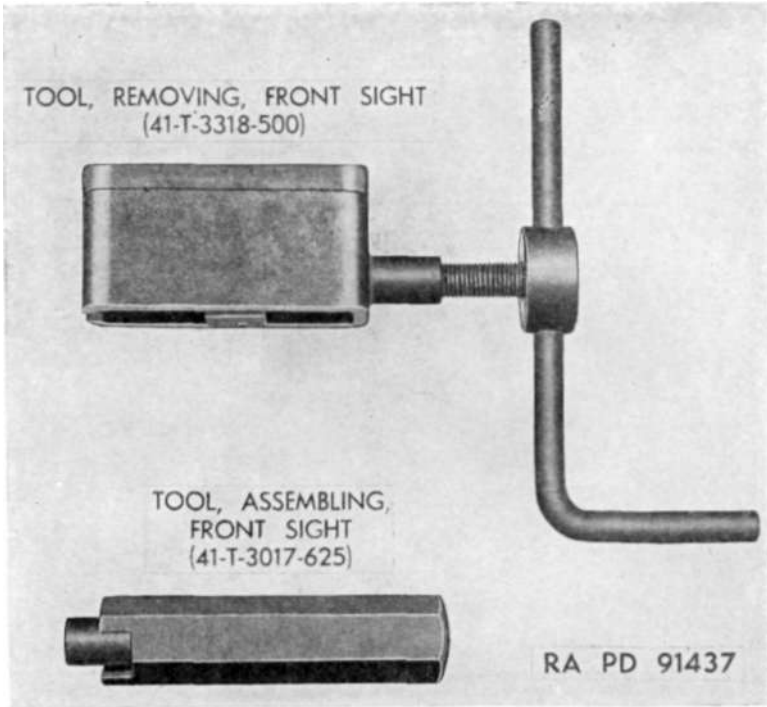

Figure 12. Front sight removing and assembling tools.
c. TOOL, ASSEMBLING, FRONT SIGHT 41-T-3017-625 (fig. 12). The front sight assembling tool is a hexagonal shaped driver with the interior drilled which acts as a guide to receive the barrel. A spring loaded plunger protrudes from the front and when the plunger is bottomed it acts as a stop to align the hole for the front sight pin. A cut on the upper front portion of the tool provides a bearing surface for driving on the sight, and also makes it possible to rotate the sight on the barrel for alignment of the key and keyway.
d. TOOL, REMOVING, FRONT SIGHT 41-T-3318-500 (fig. 12). This tool consists of a steel frame slotted on one end to fit over the band to the rear of the front sight. On the other end of the tool is a jack screw with a floating pilot which seats in the muzzle of the barrel.